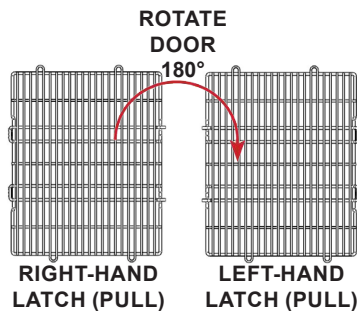

FIGURE 3.9 - Rotate Door
STEP 8: Rotate the door 180° about the face so that the hinge bushings are located on the right hand side of the door. The door has been rotated correctly if the vertical wires are in front of the horizontal wires. See FIGURE 3.9 & 3.10